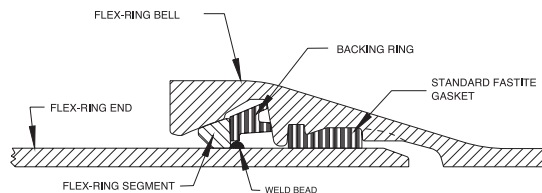

Figure 3
1. First straighten the joint as much as possible and push or pull the spigot back into the bell until it "bottoms out" in the rear of the socket. (Fig. 3)